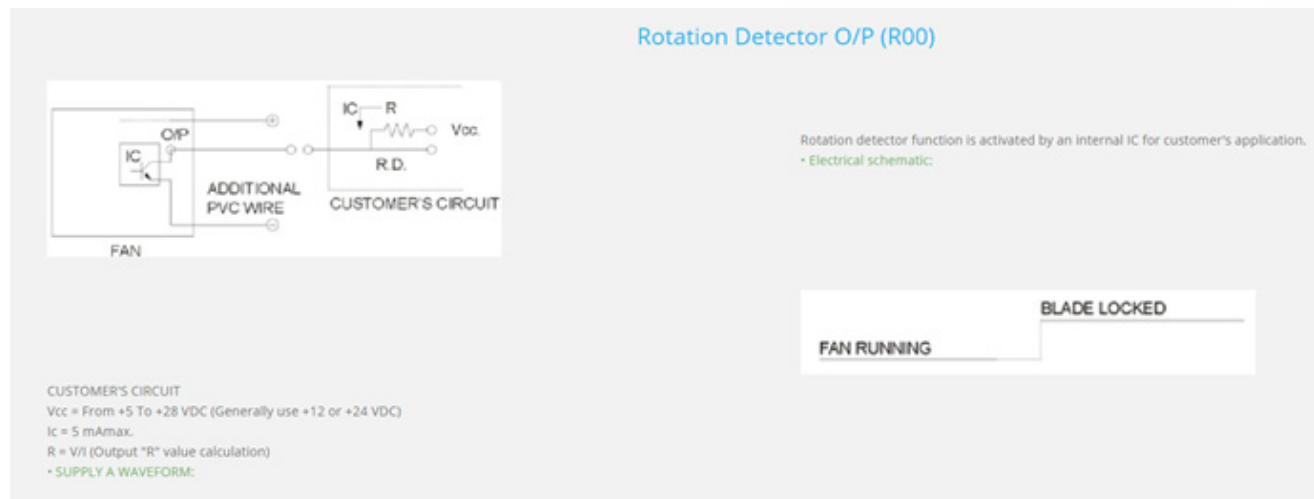

Figure 8 - Circuit needed for tachometer
3. The blue leads are for tachometer readings. It is recommended that the fans be interlocked to the high voltage power supply to prevent accidental operation of the tube when the fans are not operating. See figure 8 below for the circuit needed for the use of tachometer.